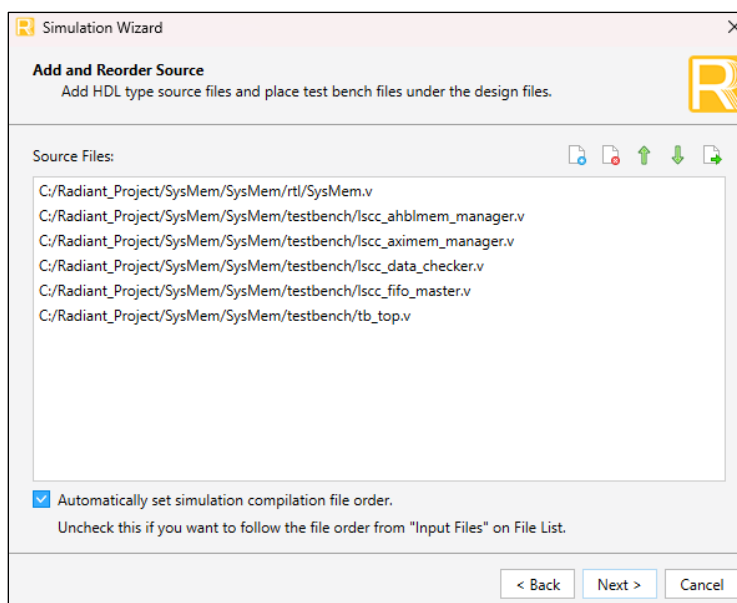

Figure 7.6. Add and Reorder Source
2. Click **Next** to open the **Add and Reorder Source** window, as shown in Figure 7.6.